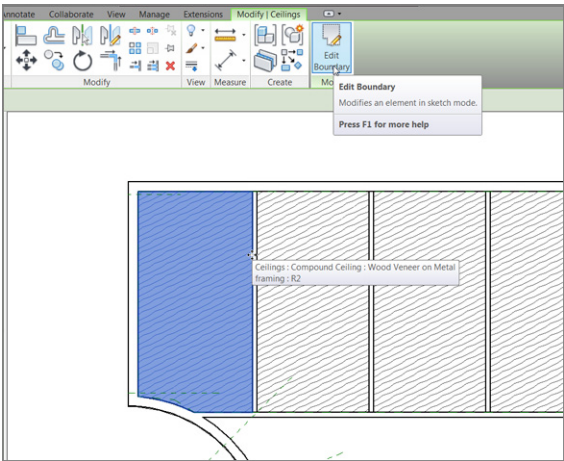

FIGURE 9.23: Clicking the Edit Boundary button on the Modify | Ceilings tab
2. Zoom in to the wood ceilings in the west wing, as shown in Figure 9.23.